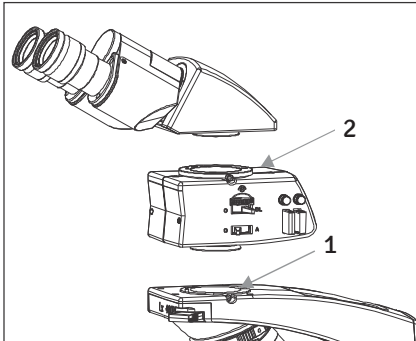

Fig.17
Refer Fig. 17
1. Using allen wrench 3mm (provided), loosen the Head Locking Screw (1) and remove the dust cover cap provided in dovetail cavity as well as on observation head dovetail.
2. Mount the Analyzer by engaging the dovetail provided on the attachment into the dovetail cavity on the microscope arm and tighten the Head Locking Screw (1) see figure 17.
4. Tighten the Head Locking Screw (2) after positioning the Observation head as desired. See figure 17.
3. Bring preset vibration direction Analyzer plate by moving Analyzer lever to 'A' position (Ref. Fig 17 Part-3)
4. Swing in lever of Bertrand lens to 'BL' Ref. Fig 17 Part (2) and focus image by rotating Bertrand Lens focusing knob Ref. Fig 16 Part (1).